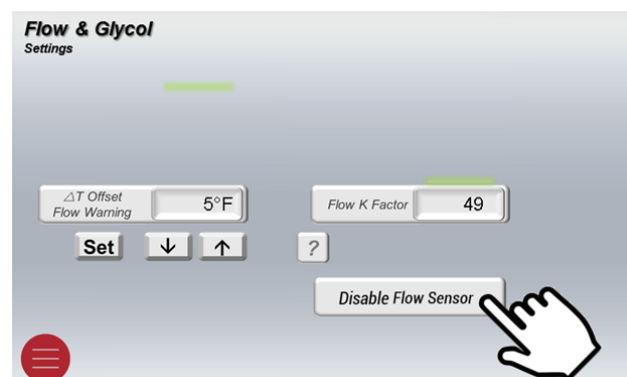

Figure 64. Disable Flow Sensor
3. You will see a "Disable Flow Sensor" button, press to disable. See **Figure 64**.